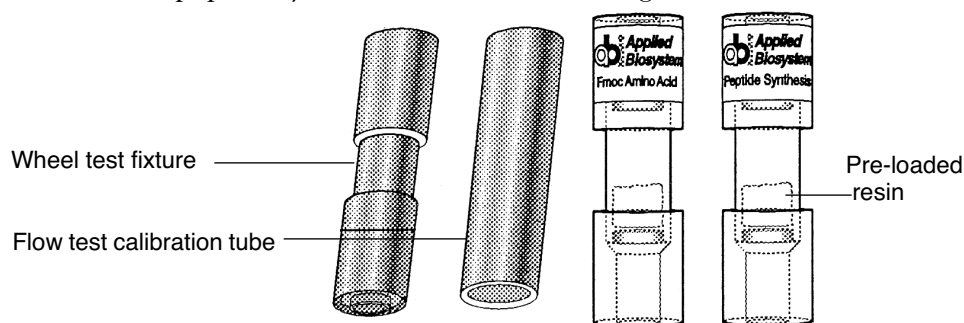

Figure 2. Calibration Test Fixtures, Amino Acid, and Peptide Synthesis columns
- two calibration test fixtures: PSC and a wheel test fixture (Figure 2). A package with two more should be in the shipping container.
- six amino acid columns (AAC) [Figure 2]
- two peptide synthesis columns (PSC) [Figure 2]